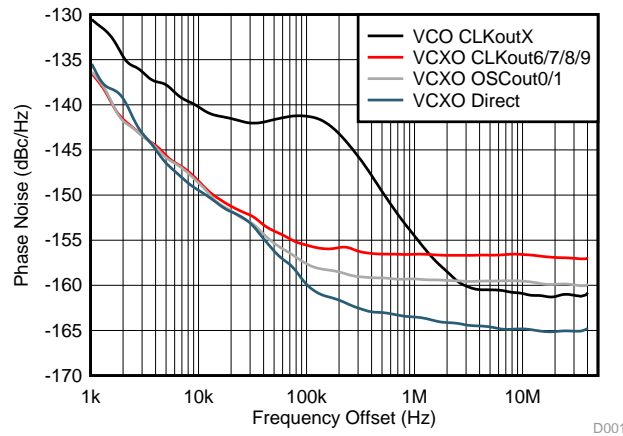

Figure 40. LVPECL Phase Noise, 122.88-MHz Illustration of Different Performance Depending on Signal Path
- Because PLL1 outputs have best in-band noise, OSCout0 is used to provide LVCMOS output to the PLL reference for the LO. LVCMOS (Norm/Inv) is used instead of LVCMOS (Norm/Norm) to reduce crosstalk. It is also possible to use CLKout6/7 or CLKout8/9 for a PLL reference being driven from the VCXO. The noise floor is higher, but close-in noise is typically of more concern because noise above the loop bandwidth of the LO is dominated by the VCO of the LO. See Figure 40.